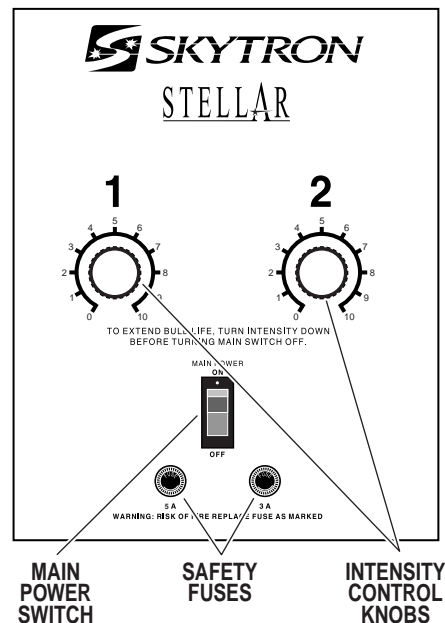

Figure 4. Wall Mounted Control Box
2. Turn the light fixture main power switch "ON" at the wall mounted control box and select the desired intensity for each lighthead as required. See figure 4. The mid-range position will provide adequate illumination for most procedures. Full intensity will usually only be required for extreme deep cavity cases.